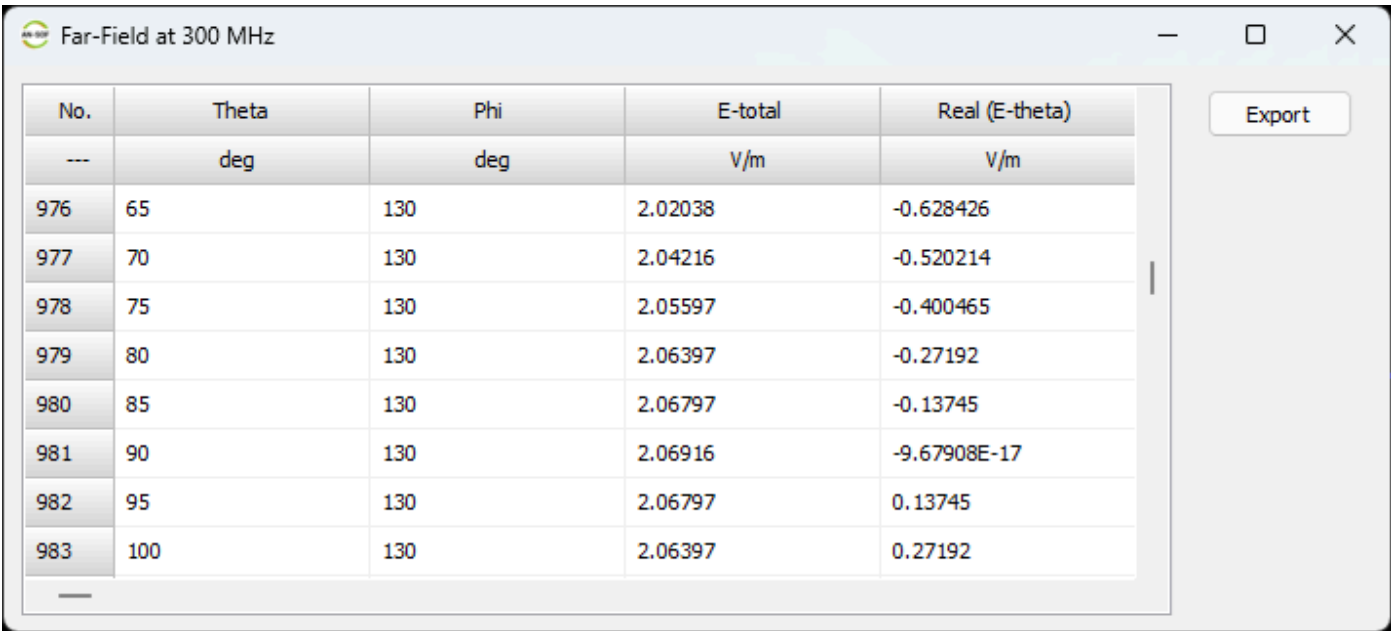

Fig. 1: Tabulated values of the far-field pattern at a selected frequency. Click on the *Export* button to export the list to a CSV file.
1. Click the **Export** button of the results window (**Fig. 1**).